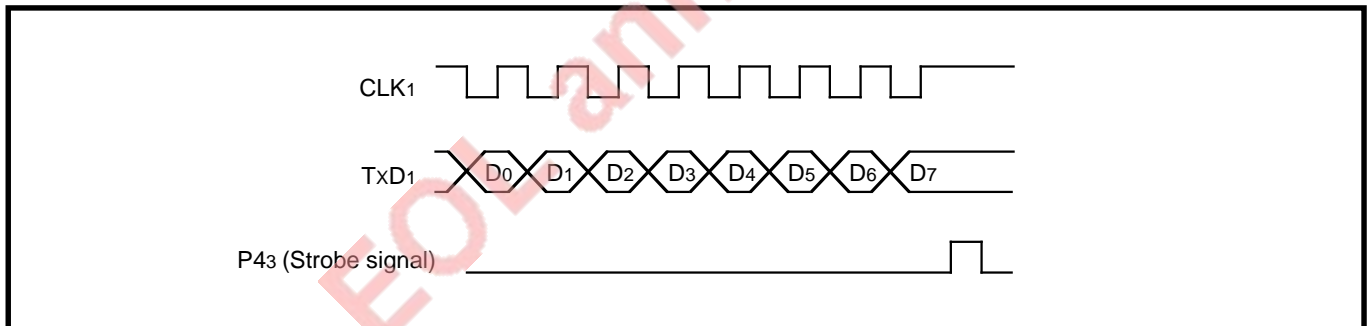

Fig. 17.2.16 Strobe signal output timing
- ① Clock synchronous serial I/O mode is selected.
- ② An internal clock is selected. Transfer rate = 2 MHz
- ③ LSB first is selected.
- ④ Transmit data is output at the falling edge of the transfer clock.
- ⑤ Pin TxD1's output structure: CMOS output
- ⑥ A strobe signal is output from port P43 each time 8-bit data is transmitted. (Refer to **Figure 17.2.16.**)
- ⑦ Completion of the transmission is determined by checking the transmission register empty flag.